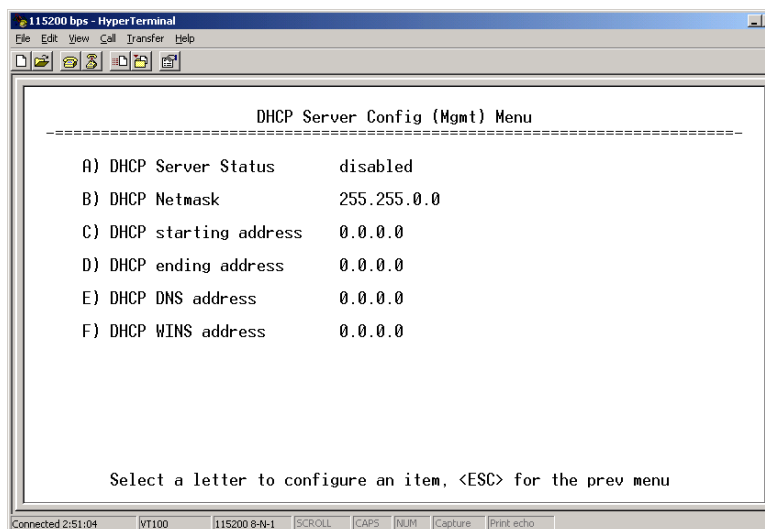

Figure 3-17. DHCP Server Configuration (Mgmt) Menu
- **DHCP Server Config (Mgmt)**—Presents a screen where you can view or set the DHCP server status and address information for management functions (see Figure 3-17 on Page 51).